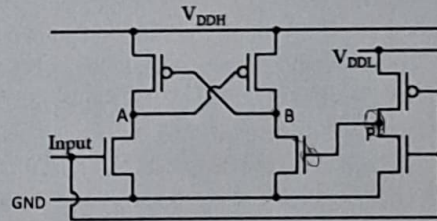

Figure 2
2. (a) Consider the circuit shown in Fig. 2. Given that $V_{DDH} = 3.3V$, $V_{DDL} = 1.8V$, voltage level at Input ranges from 0 V to 1.8 V. Identify the static voltage levels at points P, A and B for Input = 0 V and Input = 1.8V. What do you think is the function of this circuit? [3]